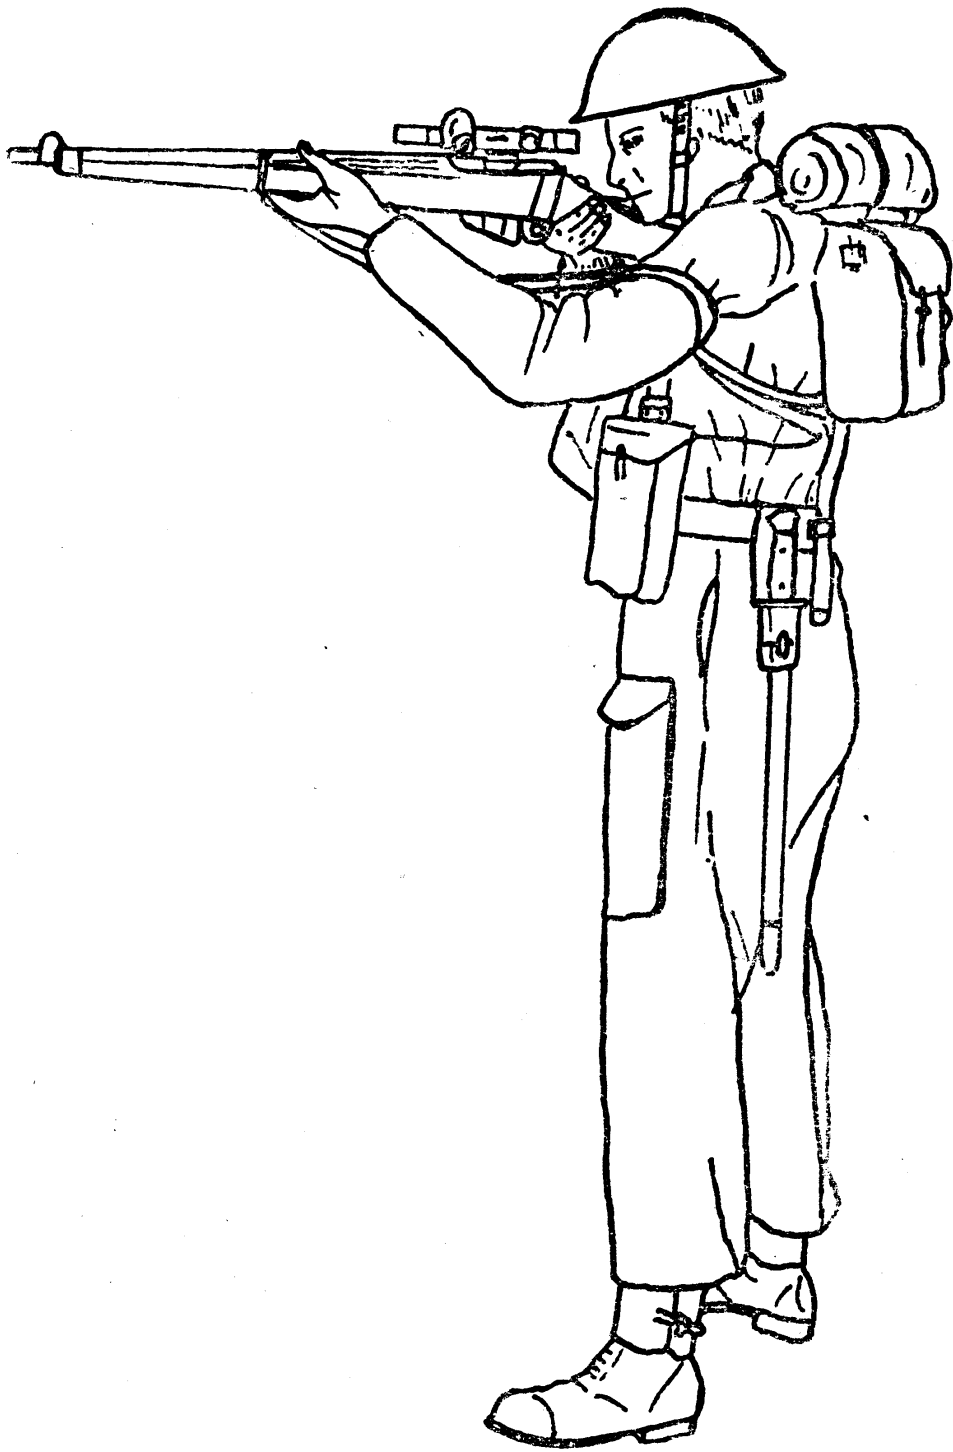

Fig. 21
- iv. Move the left hand over the top of the sling and grasp the rifle near the top sling swivel so as to cause the sling to lie smoothly along the back of the hand and wrist (Fig. 21).